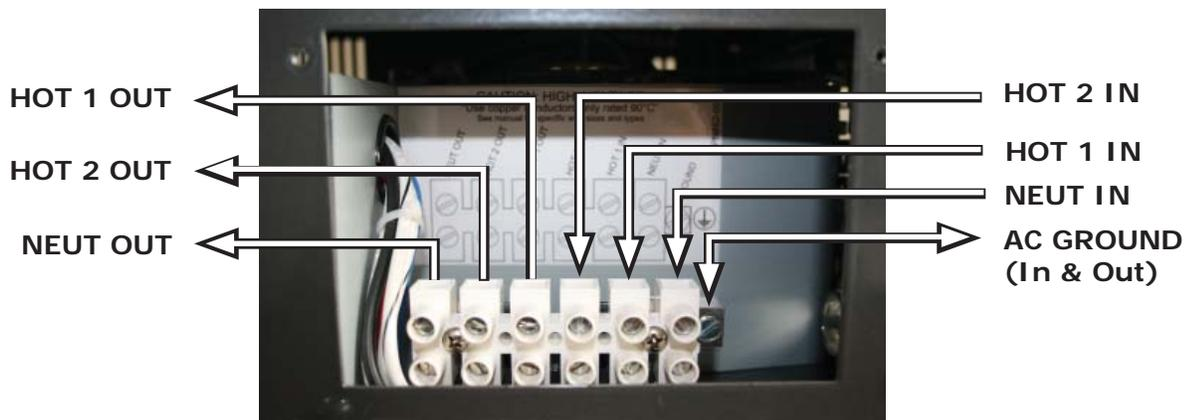

Figure 2-8, AC Terminal Block
The ME2012, ME2512, and ME3112 models have a six-pole AC terminal block and one AC ground terminal to connect the inverter's AC input and output wiring. This terminal block (see Figure 2-8) allows a service/distribution panel (main panel) to be wired to the inverter's input, and also allows a dedicated panel (sub-panel) between the inverter's output wiring and the AC loads. To access and view the AC terminal block and ground terminal, remove the two Phillips screws holding the AC wiring access cover plate (see Figure 1-3, Item 15).
1. Remove the two Phillips screws on the AC access cover (Figure 1-3, Item 15) to access the internal AC terminal block (Figure 2-8).
AC Side – Where the AC output from the inverter is connected to an AC load center, there should be an equipment grounding conductor connected between the inverter case and the grounding point in the AC load center. The AC equipment grounding conductor is sized per Table 2-4, and is connected to the inverter’s AC equipment grounding terminal as shown in Figure 2-8.